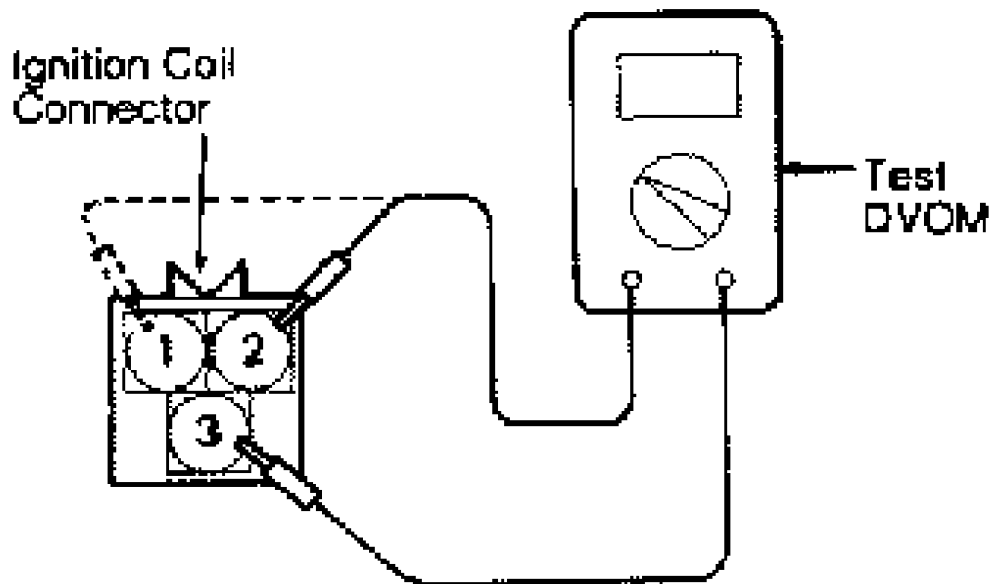

Fig. 2: Testing Ignition Coil Primary Resistance (4-Cylinder)
1) Using a Digital Volt/Ohmmeter (DVOM), measure primary coil resistance between ignition coil connector terminals No. 2 and No. 3 (coils for cylinders No. 1 and No. 4) and terminals No. 1 and No. 3 (coils for cylinders No. 2 and No. 3). See Fig. 2.
1) Using a DVOM, measure primary coil resistance between ignition coil connector terminals No. 2 and No. 4 (coils for cylinders No. 1 and No. 4) and between terminals No. 4 and No. 1 (coils for cylinders No. 2 and No. 3). See Fig. 2.